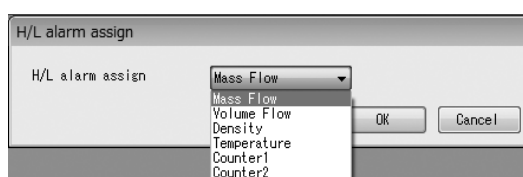

Fig.62
- ③ Click the triangle on the right side of "H/L alarm assign" and select the assignment to set from the drop-down list as shown in Fig. 62.